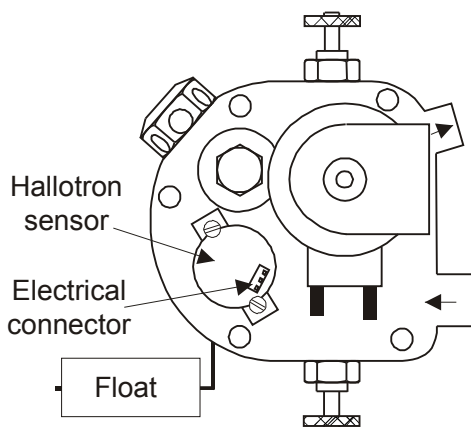

Fig. 2a Right Lovato valve
1. Install the sensor according to Fig. 2a or 2b checking the location of the electrical power connector.